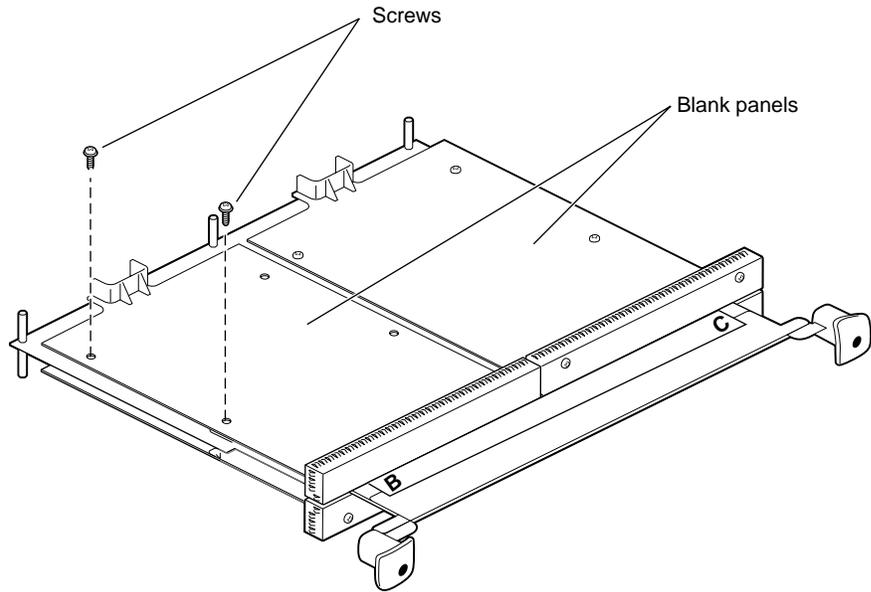

Figure 4-4 Placing a Blank Panel on the XIO Module
2. If you are installing a baffle, use two short screws to attach the blank panel (on the outside edge) to the XIO module, as shown in Figure 4-4.